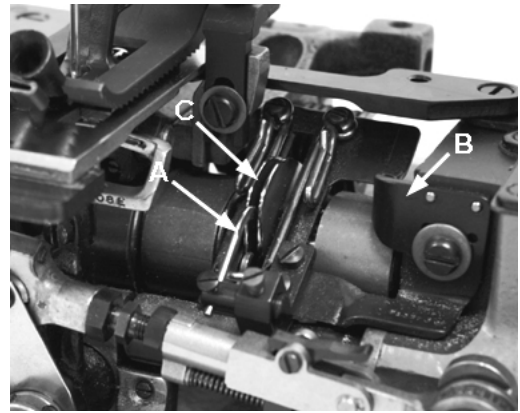

Fig 14
Looper thread cast-off wire (A, Fig. 14) located on the take-up shield (B) controls the amount of slack thread in the system and can be moved to any position. It should be set laterally so that it is midway between the two discs of take-up (C) and the tip parallel with the discs.